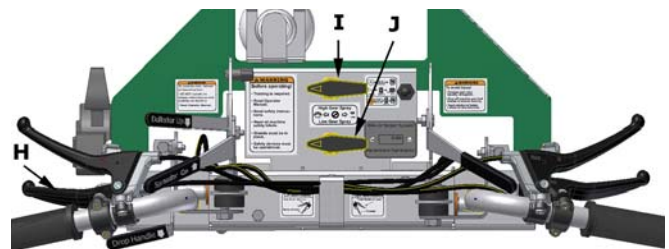

FIGURE 16, Sprayer Controls
The spray pattern and spray rate are controlled by the engine speed, pump pressure, and the nozzle orifice. These are constants that do not change unless the machine or a component is not functioning correctly or is misaligned. Referring to FIGURE 14: An Unloader Valve (A) at the lower right rear of the front frame controls pump pressure. There is a Suction Shutoff Valve (B) located at the lower left rear of the front frame. The Drain Valve (C) can be used to flush the spray system, drain the tanks or fill the Spot Sprayer bottle (included). A Strainer (not shown) is located inside each Tank. The Tanks are connected together by common Suction and Return flow plumbing to provide a total capacity of 12 US gallons (45.4 liters). **NOTE:** The Triumph is not capable of selectively drawing from only one Tank. Referring to FIGURE 16: A Spray Lever
The standard nozzles are sized to apply approximately 1 quart (.95 liters) per thousand square feet ((93 m²) in either gear whether broadcasting or trimming. Referring to FIGURE 16: Dashboard mounted Spray Selector Valves (I) control which selects High gear Broadcast and Trim Nozzles. Spray Valve (J) selects Low gear Broadcast and Trim Nozzles. [If the Half Gallon Nozzle Kit is installed, approximately One half gallon (1.89 liters) per thousand square feet is applied.]
- To select which nozzle will spray, point the Spray Control Valve handle for the gear selected to the desired nozzle either Broadcast or Trim. The front Spray Selector Valve (I) is used for High Gear and the rear Spray selector Valve (J) for Low Gear. Point Valve Handle left for Broadcast spraying, right for Trim spraying, and forward to prevent spraying for either nozzle.
- To begin momentary spraying, pull the Spray Lever (H) (FIGURE 16) toward the handgrip.